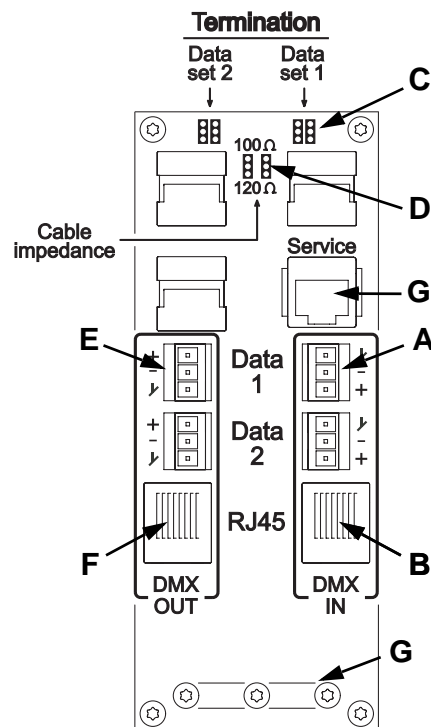

Figure 12: DMX connections
See Figure 12. Either connect the data cable to the luminaire's **Data 1 DMX IN** screw terminals (**A**) as follows:
3. Connect the DABS1 adaptor to the Exterior 1200 Image Projector using either an XLR connector connected to the data link or the RJ-45 service socket in the connections compartment behind the rear cover plate (see **G** in Figure 12 on page 22). If connecting via the data link, note that you may only connect to one luminaire at a time.